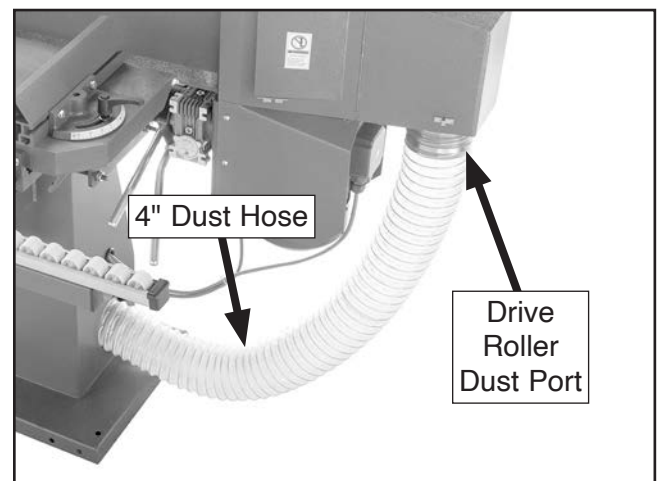

Figure 24. Dust hose installed on drive roller dust port (drive roller doors closed for clarity).
11. Install loose end of (1) 4" dust hose on drive roller dust port shown in **Figure 24**, then secure in place with pre-installed hose clamp.